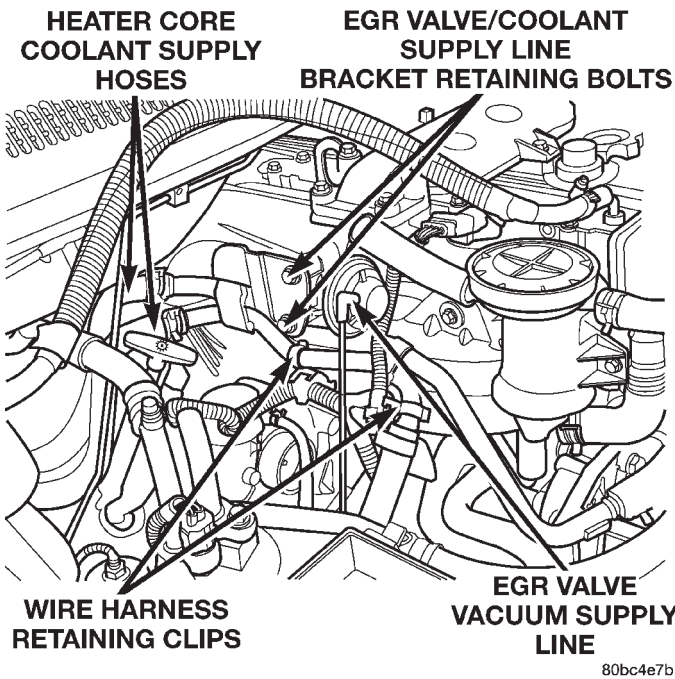

Fig. 38 3.1 L Diesel Engine
(10) Remove the EGR vacuum supply hose from the EGR valve (Fig. 38).
(11) Disconnect the heater core coolant supply lines from the engine assembly (Fig. 38).
(12) Unclip the wire harness from the coolant supply lines (Fig. 38).
(13) Remove the (2) EGR valve / coolant supply line retaining bolts (Fig. 38).
(14) Remove the coolant supply line support bracket bolt from the water pump housing.